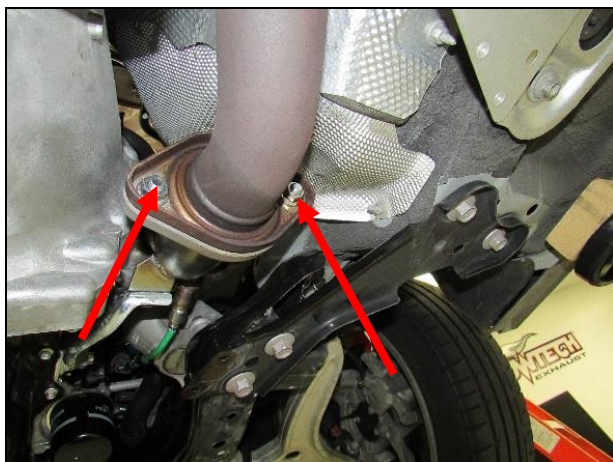

Figure 15
6. Connect the header flange to the resonator flange. Tighten the (x2) 17mm head bolts and (x2) 15mm head nuts that were supplied with the kit (**Figure 15**).